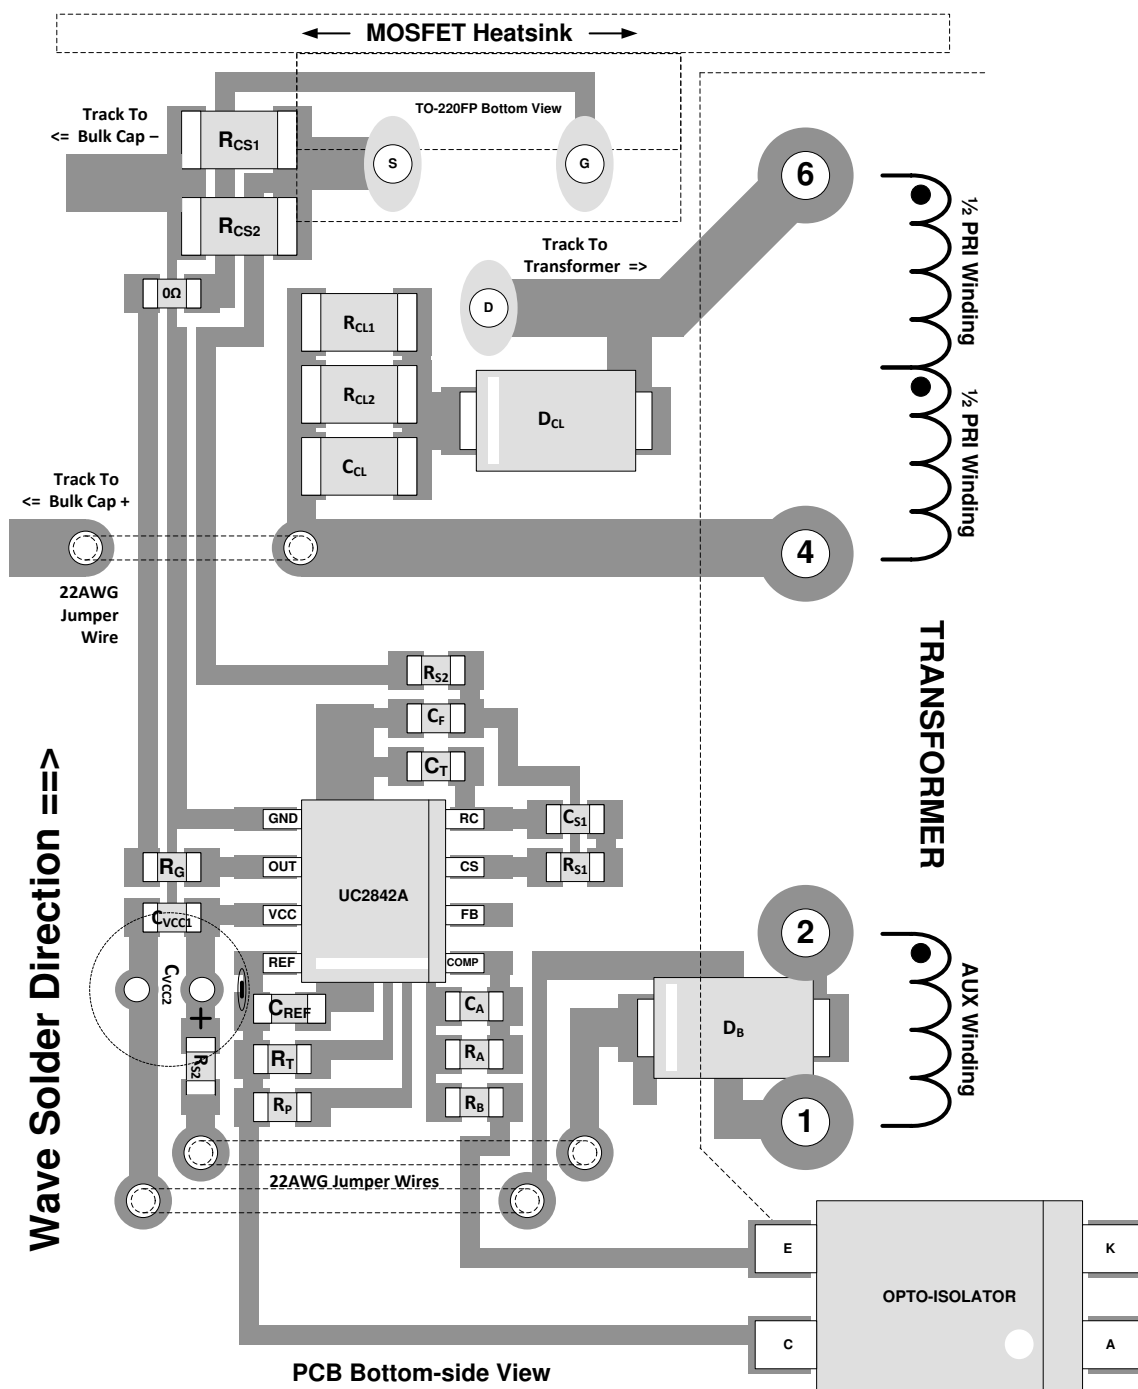

Figure 9-1. Layout Diagram
- Figure 9-1 shows the SMD components arranged for wave-solder on a single-layer board. If multiple layers are used, some components can be rearranged for easier interconnection and reduced current-loop areas. If the solder process allows, placing the SMD components in perpendicular orientations can improve interconnections and loop areas.